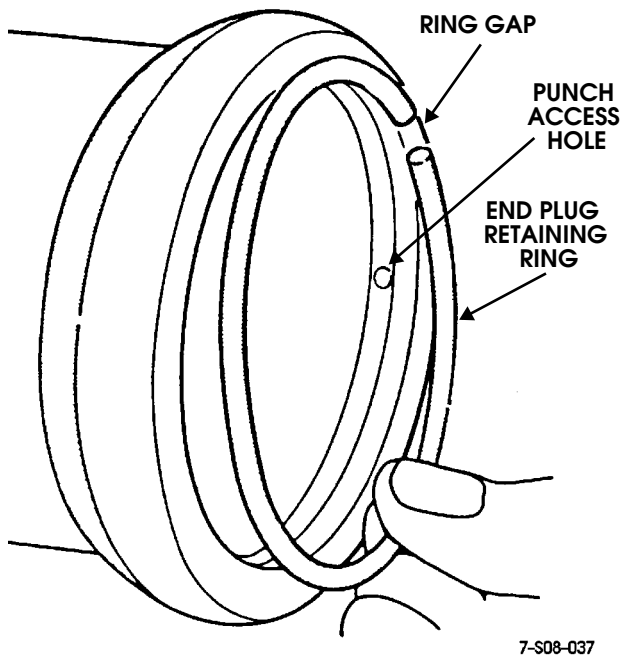

Figure 8-63: Positioning End Plug Retaining Ring in Housing
8. Install end plug retaining ring. Position ring ends so neither one is aligned with punch access hole in gear housing (Figure 8-63).